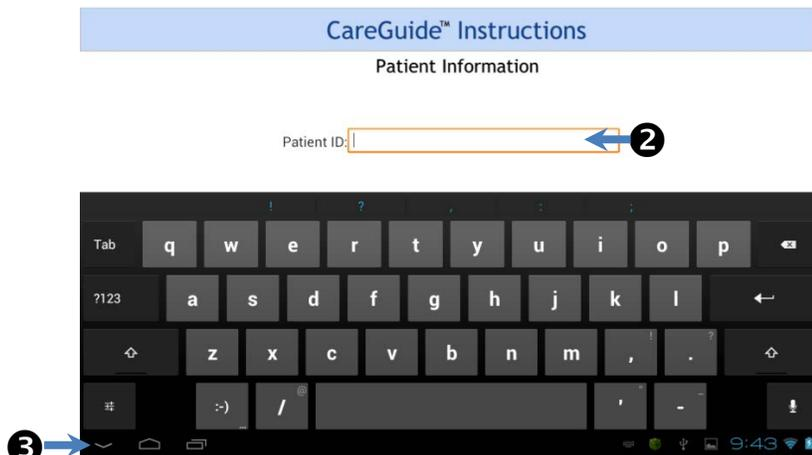

Figure 5. Patient ID Screen
- 2 If needed, click the Patient ID box to bring up the on-screen keyboard (Figure 5 ❷).
- 3 Enter the patient ID (up to 50 characters), then hide the keyboard (Figure 5 ❸).